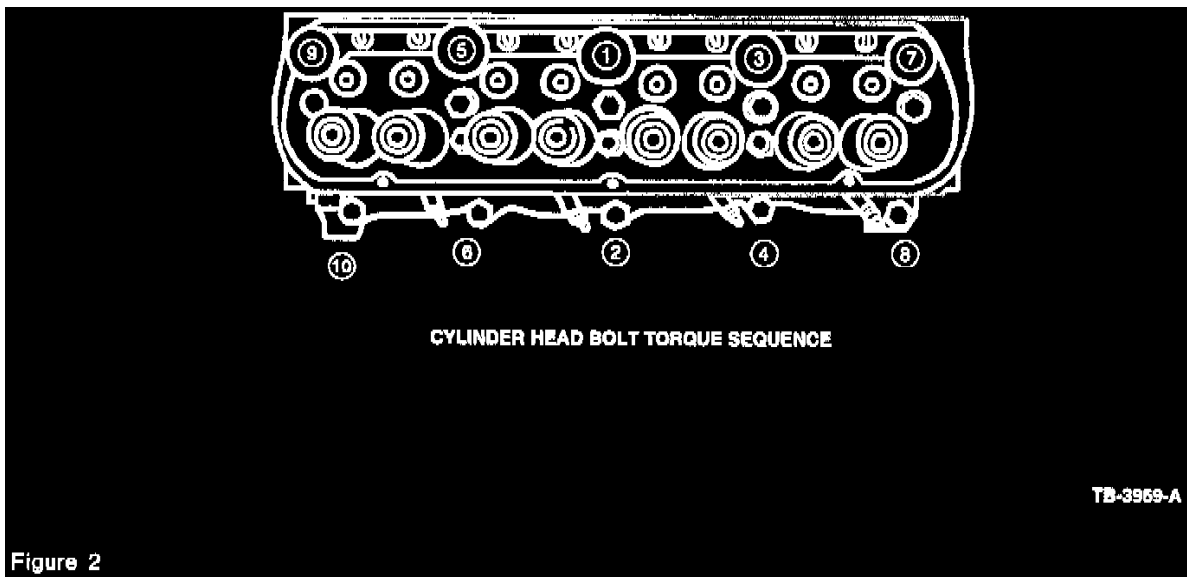

Figure 2
1. Tighten all bolts in sequence (Figure 2) to 75-88 N-m (55-65 lb.ft.).
2. Tighten all bolts in sequence (Figure 2) to 88-98 N-m (65-72 lb.ft.).
1. Tighten all bolts in sequence (Figure 2) to 34-47 N-m (25-35 lb.ft.).
2. Tighten all bolts in sequence (Figure 2) to 61-75 N-m 45-55 lb.ft.).
3. Tighten all bolts in sequence (Figure 2) an additional 1/4 turn (85-95 degrees).